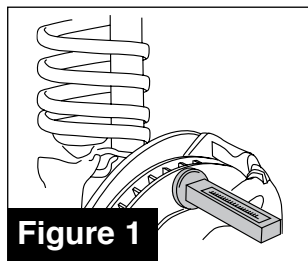

Figure 1
- c. Install magnet camber gauge (SPC #81139) on rotor and set to zero (See Fig 1).